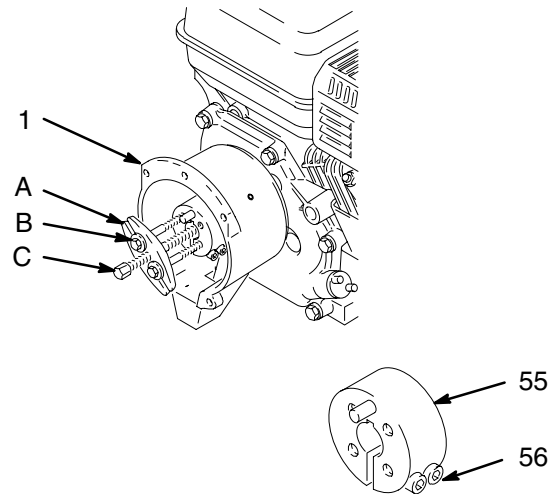

Fig. 21
**NOTE:** Refer to Fig. 21.
1. Loosen the two screws (56) on the clamp (55), working through the slot at the bottom of the clutch housing (1).
2. Install two screws (B) of the tool (A) in two of the threaded holes in the clamp (55). Tighten the screw (C) until the clamp comes off.